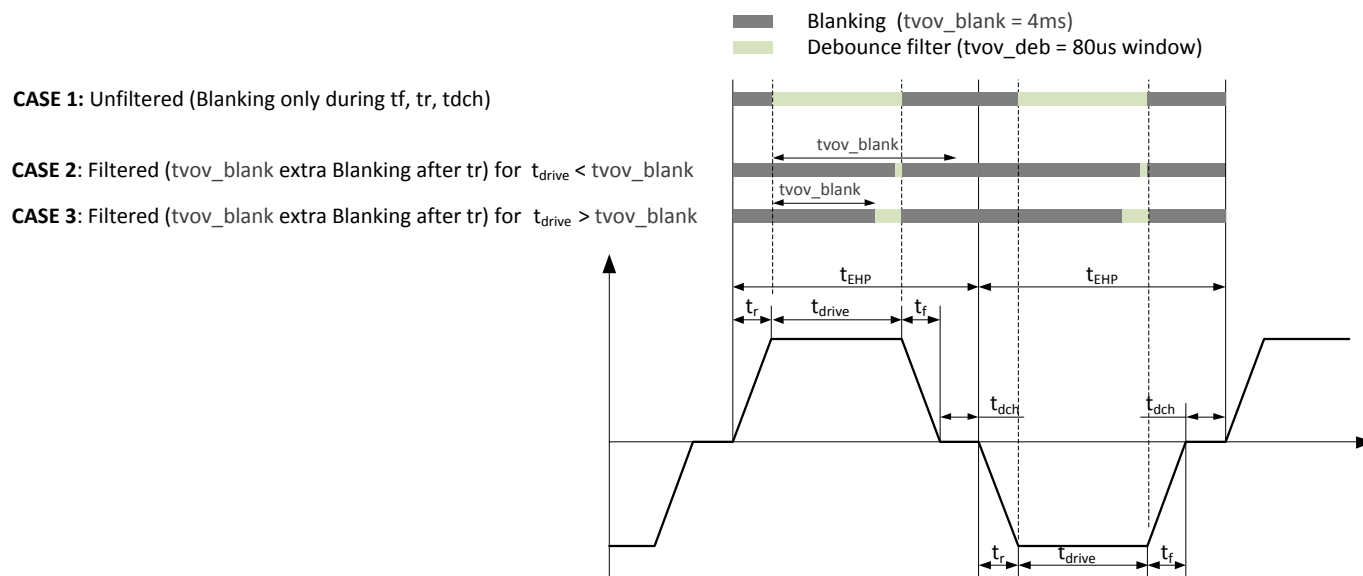

Figure 9 Vov blanking/debounce filtering
- Vov protection is always blanked during the falling slope, the Flat and the Rising slope of each commutation (See Figure 9 Vov blanking/debounce filtering: CASE 1)